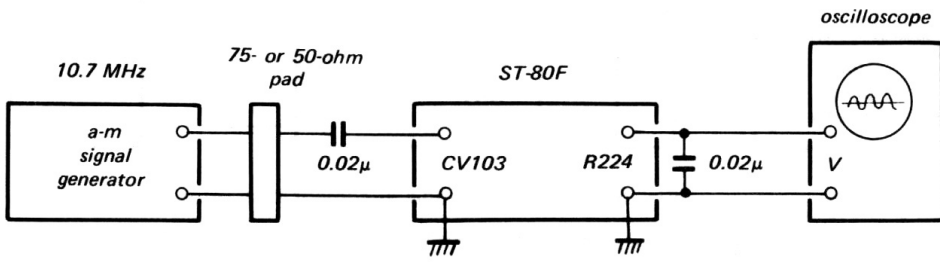

Fig. 5-7. Fm discriminator alignment by signal generator test setup
1. With the equipment connected as shown in Fig. 5-7, set the signal-generator's controls as follows: